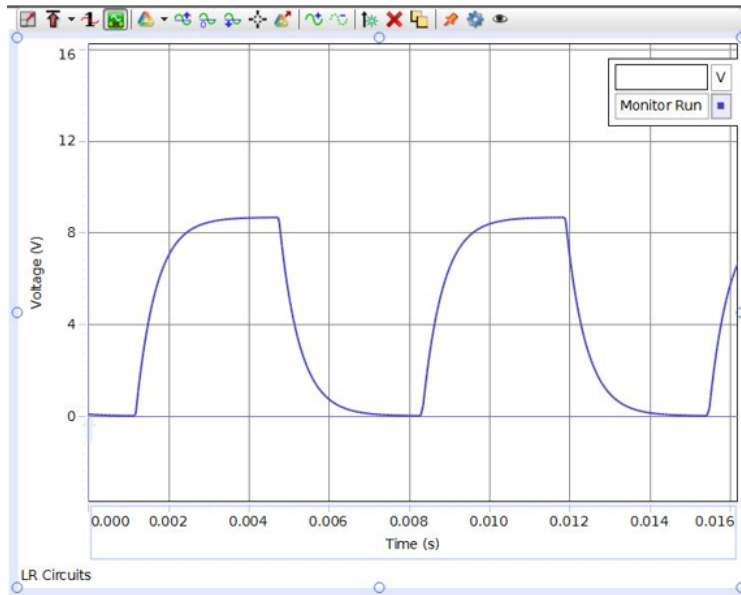

Figure 9: A sample signal
- 8 Turn on the signal generator by clicking **ON** in the signal generator window, and monitor the signal by clicking **MONITOR** in the main window. There should be a signal trace like that shown in Fig. 9. This will allow you to observe how the voltage on the resistor varies as a function of time. Click **STOP** after a few seconds. The data will remain in the scope window until the next time the **START** button is clicked.